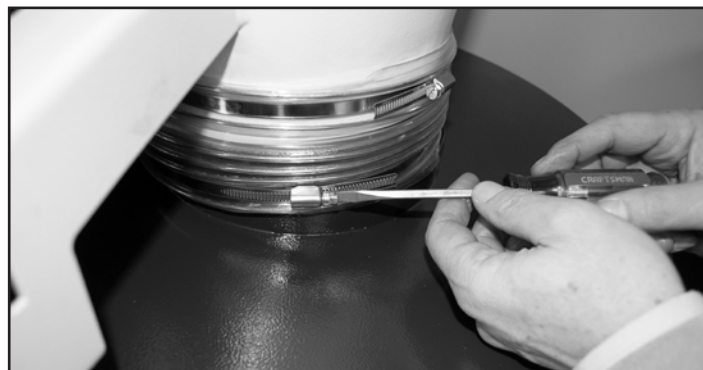

FIG. 32
3. Install the hose connecting the Collection Drum Assembly to the Separator Funnel. Fig. 32.